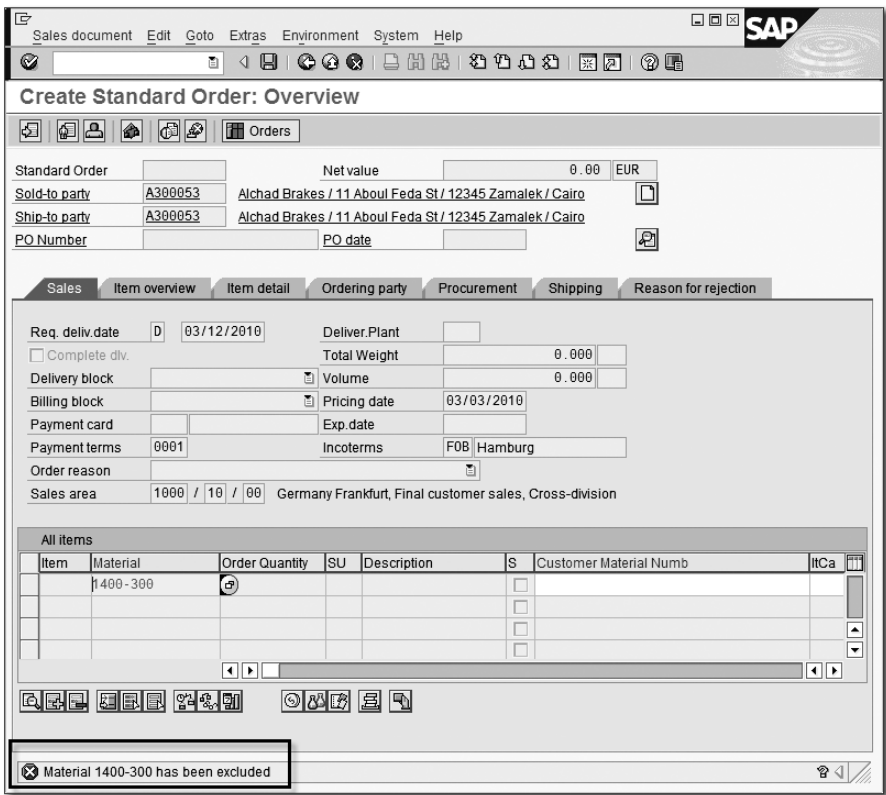

Figure 3.22 Create Standard Order – Exclusion Error
- 4. You'll run into a "hard stop" error message, which tells you that the material can't be sold to this customer, as shown in Figure 3.22.